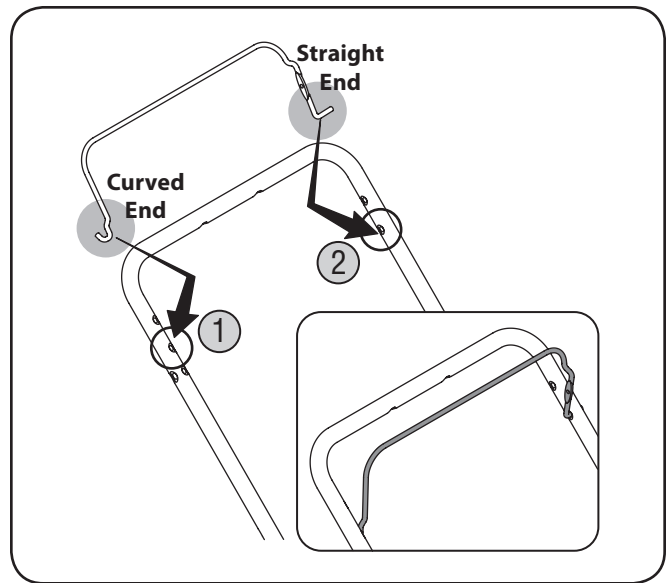

Figure 3-5
1. Insert the curved end of the blade control handle into the centre hole on the right side of the upper handle. See Figure 3-5.